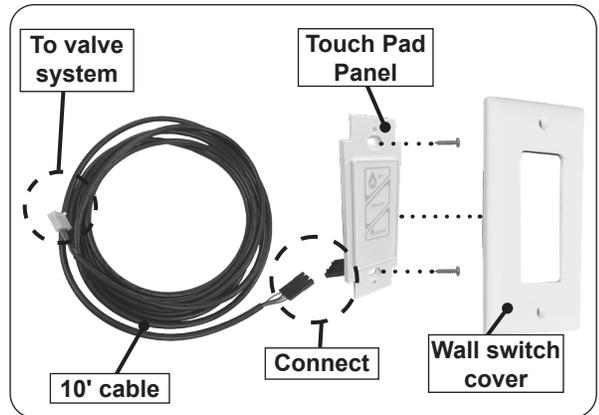

Fig. 1-1 Installation overview
6. Connect the female connector of the wire cable to the male connector of the touch pad panel. See Fig. 1-1.